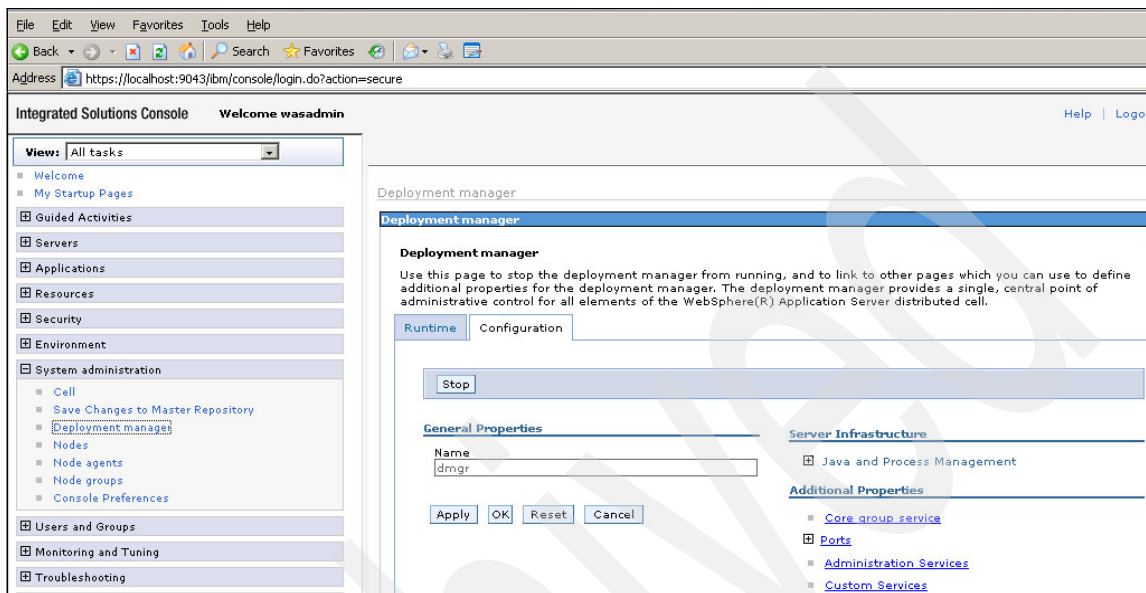

Figure A-6 Deployment Manager
6. Edit JVM™ memory settings for the deployment manager. From the **System administration** link in the tree view, click **Deployment manager** (see Figure A-6).